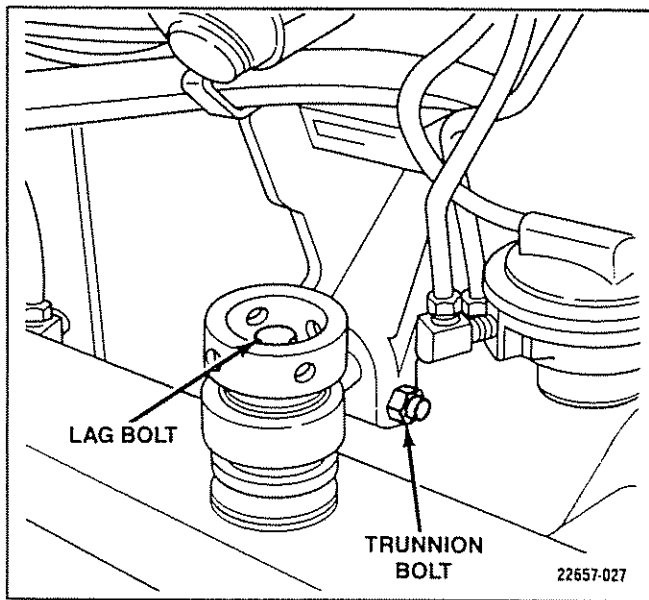

Figure 2-9. Securing Engine Mount
6. After the engine has been properly aligned, secure the engine mounts (Figure 2-9).